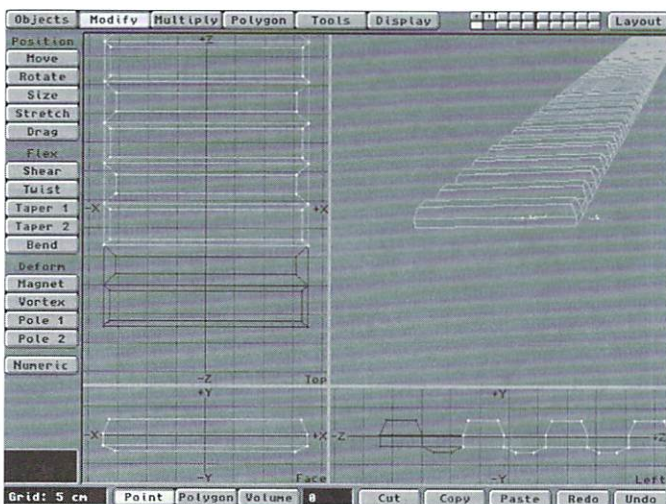

Figure 1: Track-Start (in Background Layer) and Track-Morph (in Foreground Layer) as an example of shifting the track two segments.
- Save this object as "Track-Start". Move the track the length of two segments (polygons) on the +Z-axis. Save this again as "Track-Morph". An example of the slightly offset track is shown in Figure 1. What you've just made is a flat tank track and a copy of the track moved a slight bit on the +Z-axis. This will be used to move the track forward with a morph.